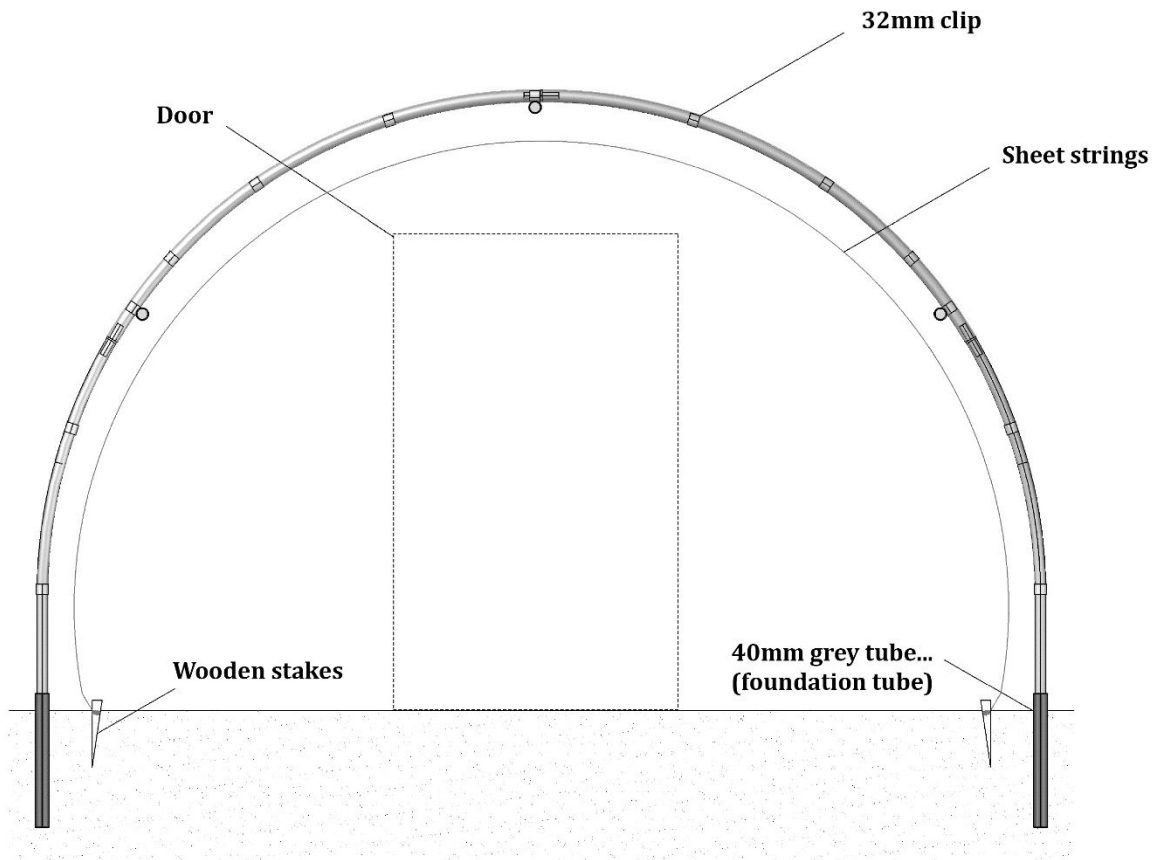
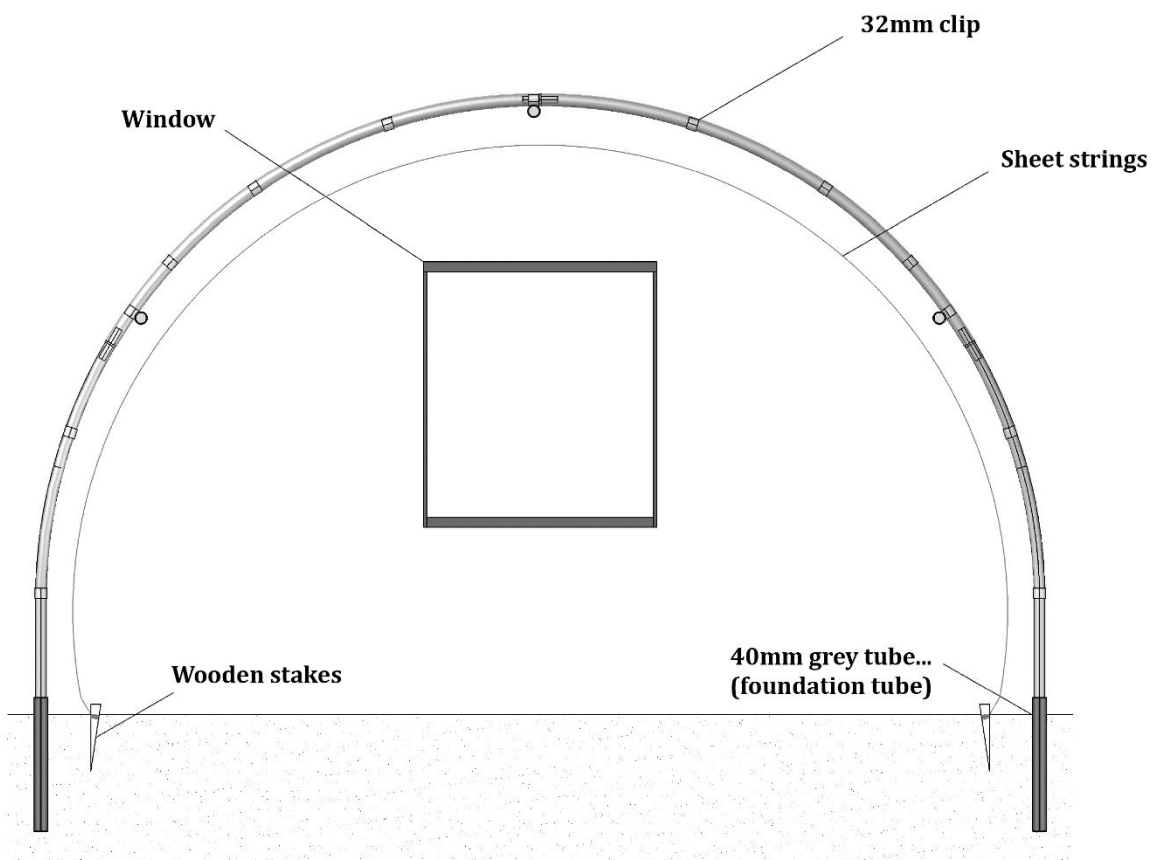

Figure 4
Figure 5
6. Secure the Ø32 clips to the tunnel peaks (front and back with window) onto the end hoops as per Fig. 4 (front view) and Fig. 5 (back view). Trim any excess film on the sides with scissors.
7. Slide the main sheet onto the structure and tie the sheet strings to the wooden stakes driven into the ground according to Fig. 4. Initial tensioning of the film is achieved by hammering the wooden stakes with attached strings.